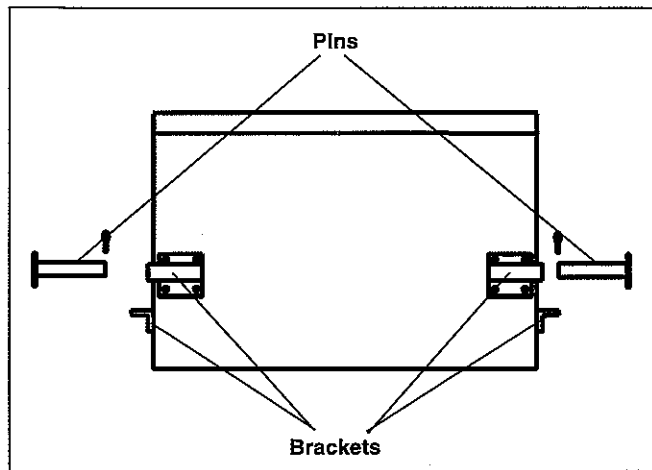

figure 13
5. Remove pins from the rear brackets (figure 13).